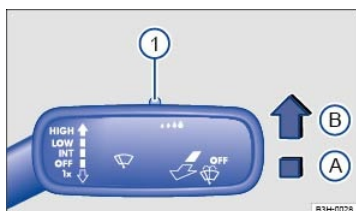

Fig. 90 Windshield wiper lever: Adjusting the rain sensor ① (if equipped).
The rain sensor's sensitivity can be adjusted manually ⇒ Fig. 90① ⇒ ⚠.